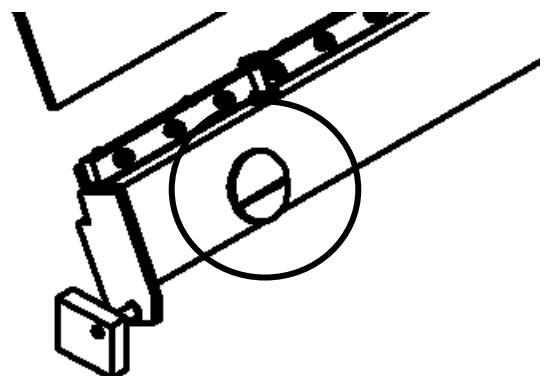

Figure 2-17
4. SLOWLY pour Reactor Oil (or equivalent) into the tank until the oil level in the oil level indicator, as shown in Figure 2-17, is at the top mark.